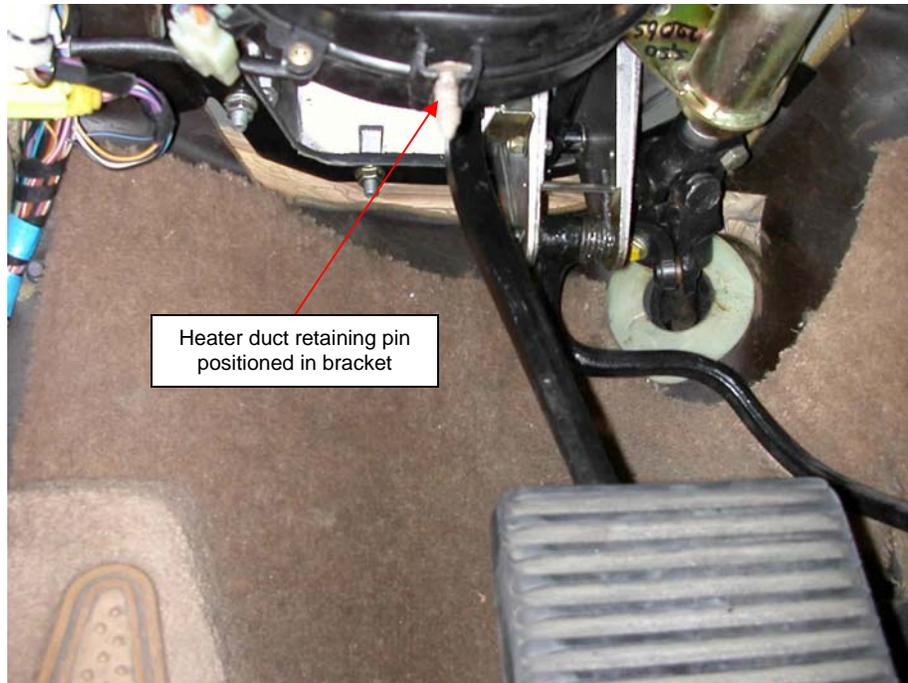

Fig. 20
25. When reinstalling the heater/AC duct (reverse of Step 3 above), pull the brown-plastic retaining pin from the duct with needle nose pliers. Slide the pin into bracket on the car (Fig. 20). Position the duct inlet on the heater/AC outlet, push the duct forward such that the hole for the pin is beneath the pin, and push the duct upward into place onto the pin. I could not get the duct back into place without this step.